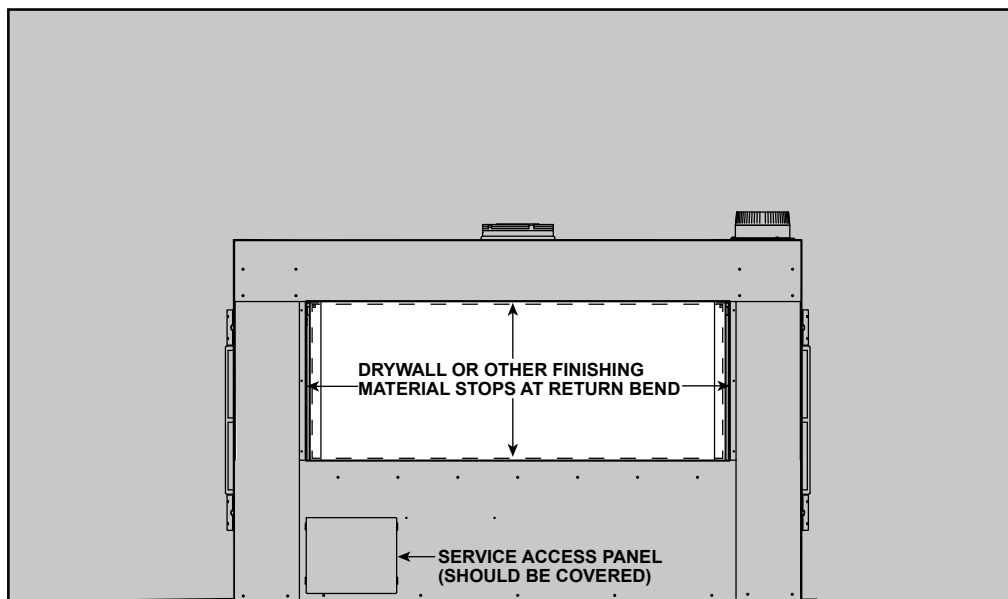

Figure 10.6 Drywall Detail
- Facing and/or finishing materials must never overhang into the glass opening. See Figure 10.6.